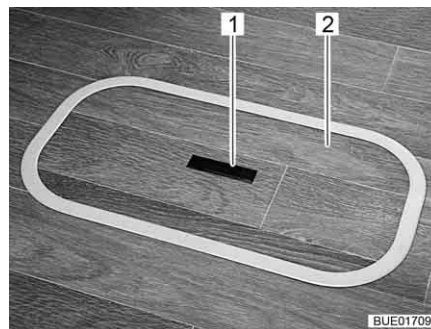
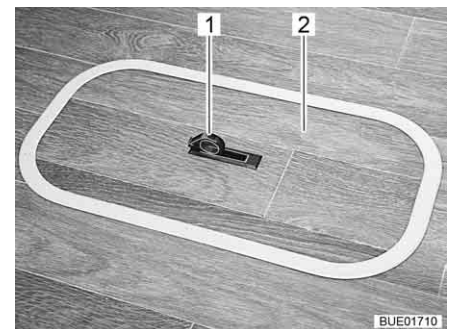

Fig. 48 Floor compartment cover (handle recessed)
Fig. 49 Floor compartment cover (handle swung out)
- Push one side of the grip plate (Fig. 48,1) downwards. The handle (Fig. 49,1) swivels upwards.
- Remove the cover (Fig. 48,2 or Fig. 49,2) upwards.